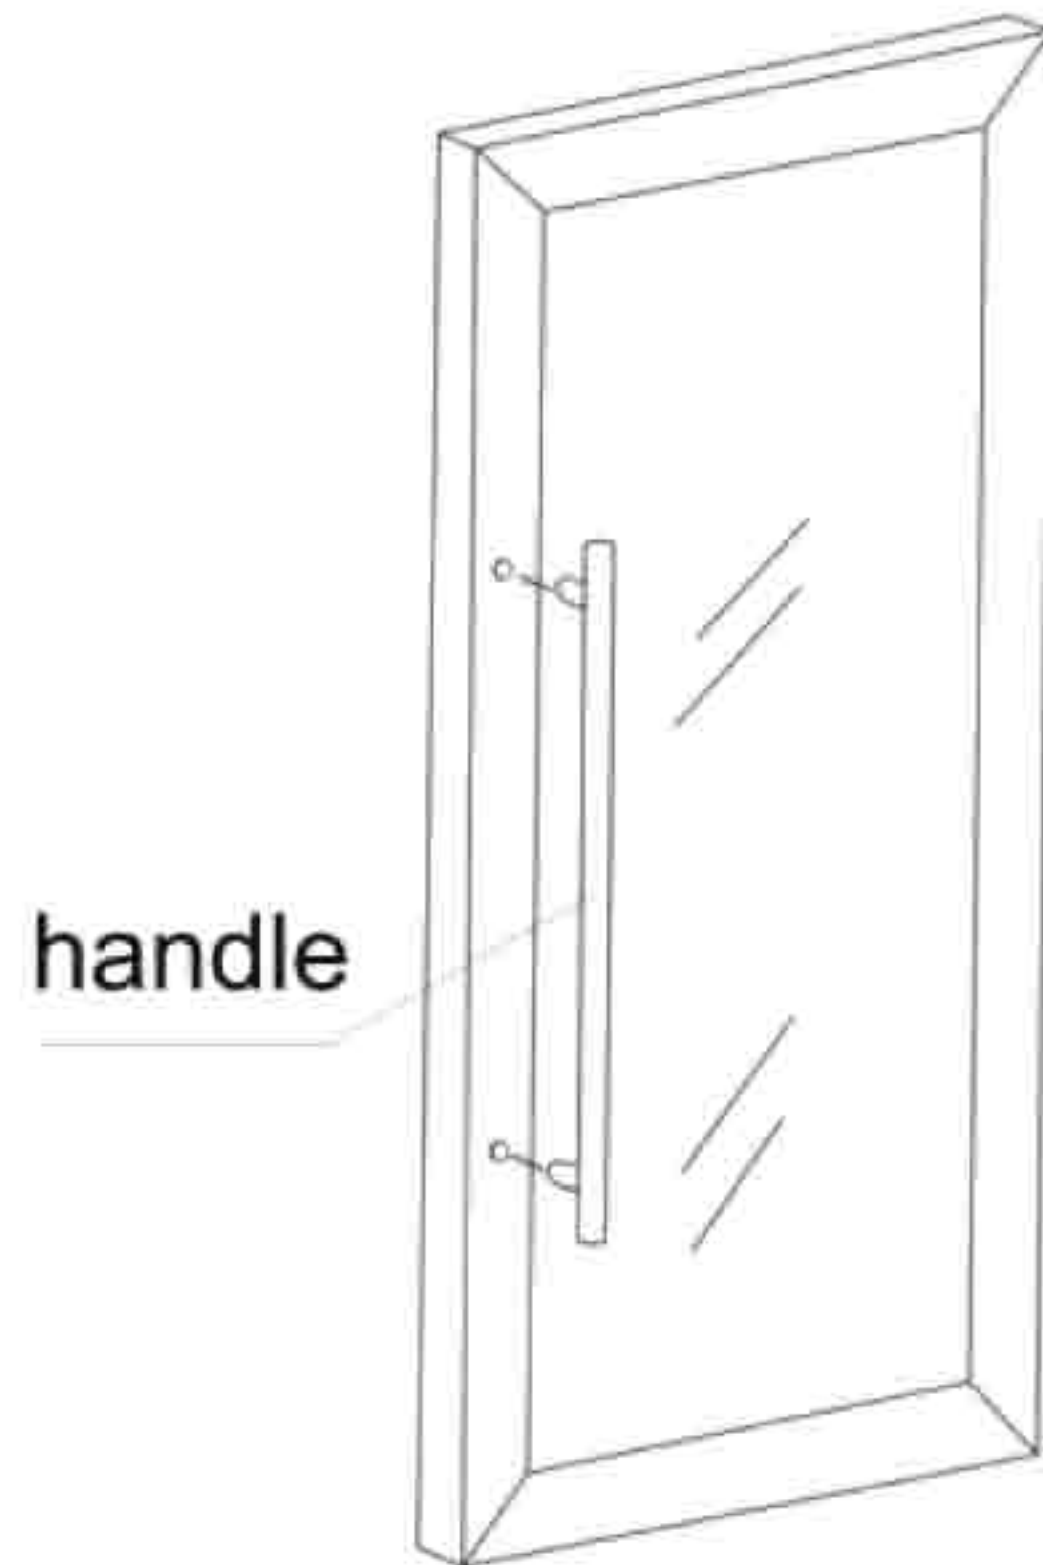

Figure 4
1. Put on the handle on the door. (See figure 4)